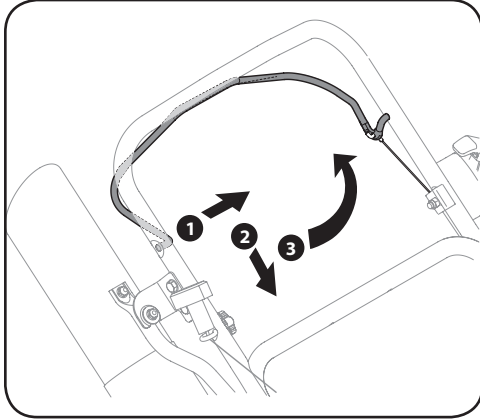

Figure 7-5
1. Push the right side of the control out of the right hole in the upper handle. See Figure 7-5.
3. Pivot straight up to remove it from the left hole in the upper handle. See Figure 7-5.